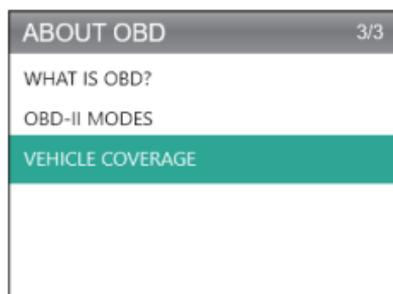

Figure 9.1.2
- Select ABOUT OBD (See Figure 9.1.2), and press [OK]. Three options will appear, including WHAT IS OBD? (General OBD info, OBDII MODES, VEHICLE COVERAGE, models that support, and more).